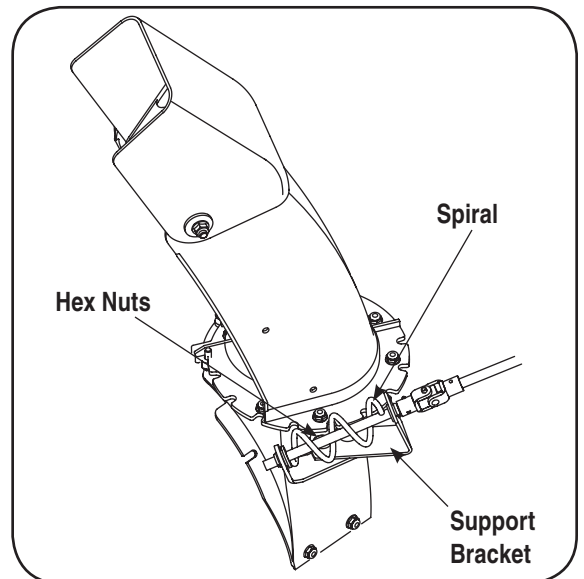

Figure 34
1. Loosen, but do NOT remove the two hex nuts which secure the support bracket to the snow thrower housing. See Figure 34.